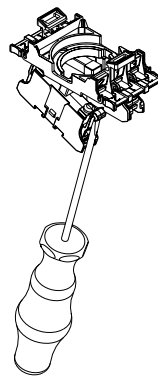

Fig. 13
3. Disassembling the contact elements from the contact carrier (see Fig. 13): insert the screwdriver in the latch of the contact element. Slightly move the screwdriver in the direction of the contact element to press the latch outwards. The contact element is released from the contact carrier.